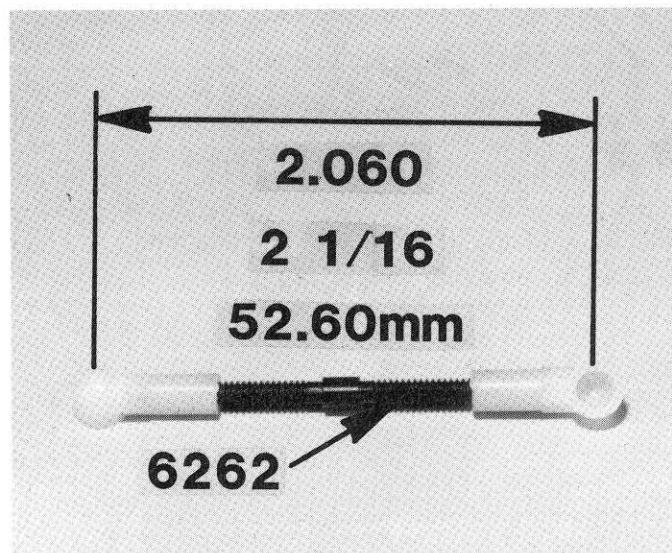

Fig. 88
□ **Fig. 88** Take the two #6262 threaded rods and screw two plastic rod ends on each to the dimension shown. Note that on this strut one ball faces forward and one faces to the rear.